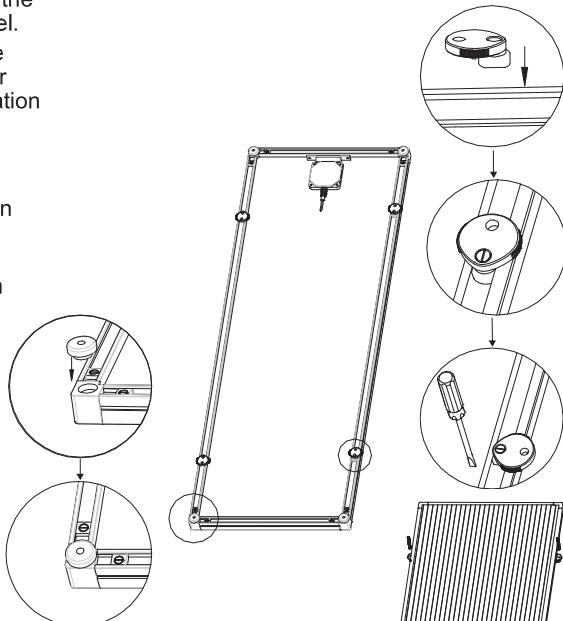

Fig. 1
- 8.2 The included four foot pads can be mounted to the corners of the solar panel to help increase heat dissipation (see figure 1).